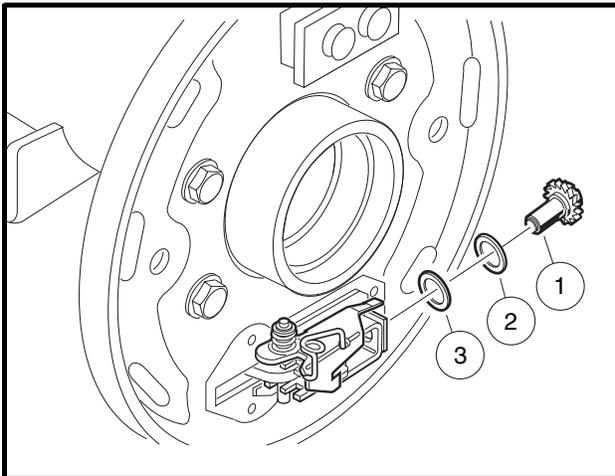

Figure 6-6 Remove Adjuster Wheel
8. **Self-adjusting brake vehicles only:** Remove the adjuster wheel (1) with two washers (2 and 3) from the backing plate (Figure 6-6, Page 6-3).